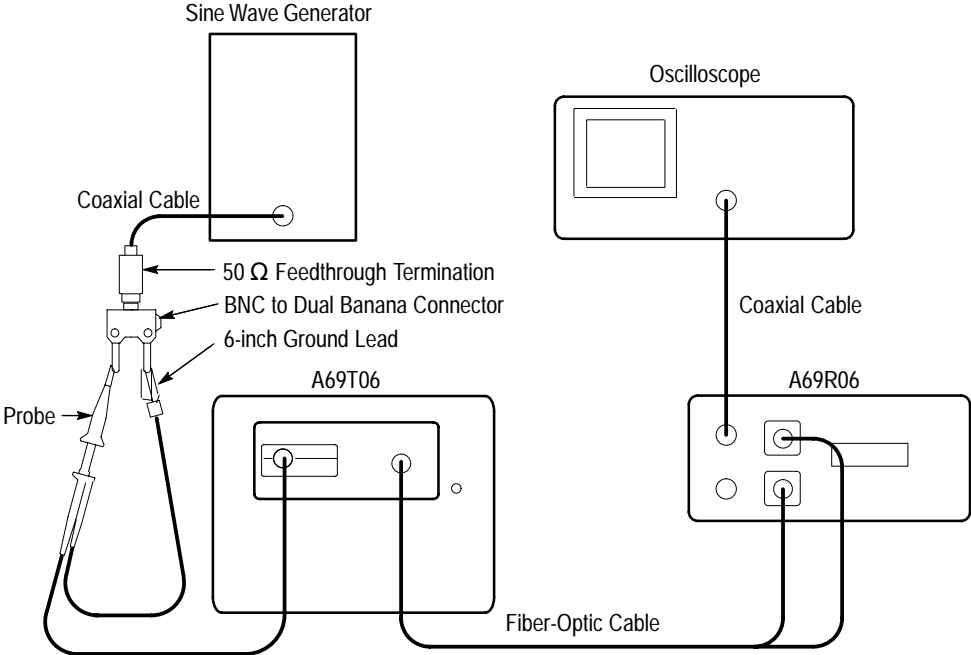

Figure 12: Bandwidth Check Setup
1. Attach a coaxial cable to the output of the sine wave generator. Attach a 50 Ω feedthrough termination to the other end of the coaxial cable. Attach a BNC to Dual Banana Connector to the 50 Ω feedthrough termination, and connect the A6906S probe to the banana jacks. Connect the probe tip to the signal jack and the 6-inch ground lead to the ground jack. The connections should now be configured as shown in Figure 12.